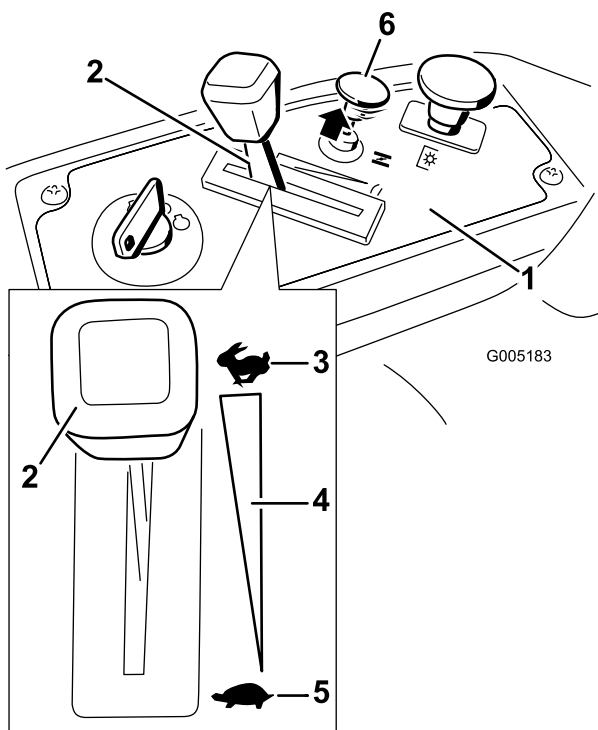

Figure 11
3. Pull up on the Choke control before starting a cold engine (Figure 11).
3. Turn the ignition key to Off (Figure 11).